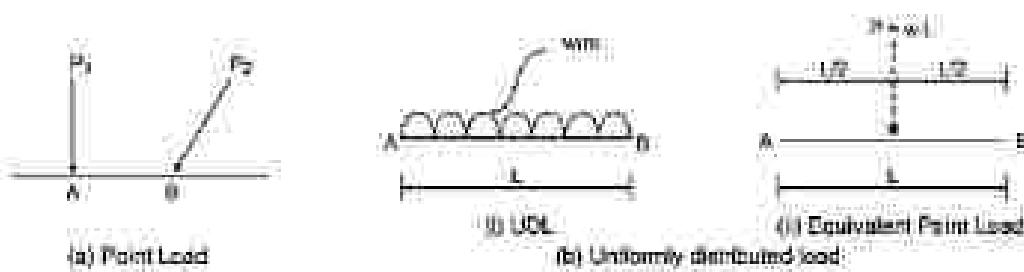

Fig. 2.9: Types of load
(B) Uniformly distributed load (UDL) [fig. 2.9(b)]
(C) Uniformly varying load (UVL) [fig. 2.9 (c)]